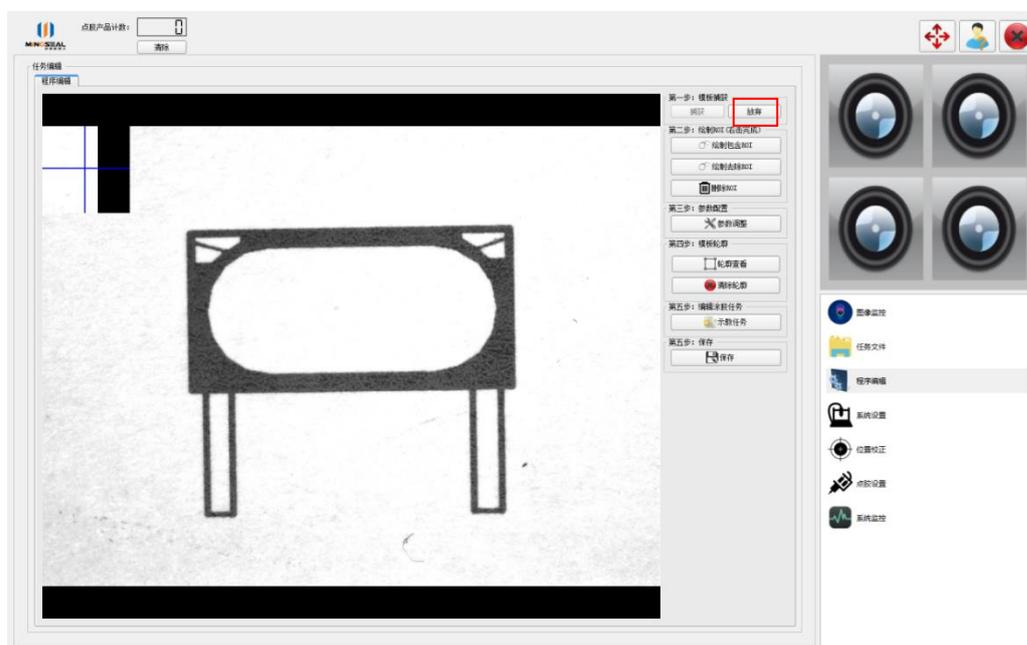

Figure 24 Template capture
2) click the 'capture' button to get a template image, then the camera stop image acquisition; if the camera is required in continuous acquisition state, click 'quit' button; the interface of template image capturing is as as shown in Figure 24.